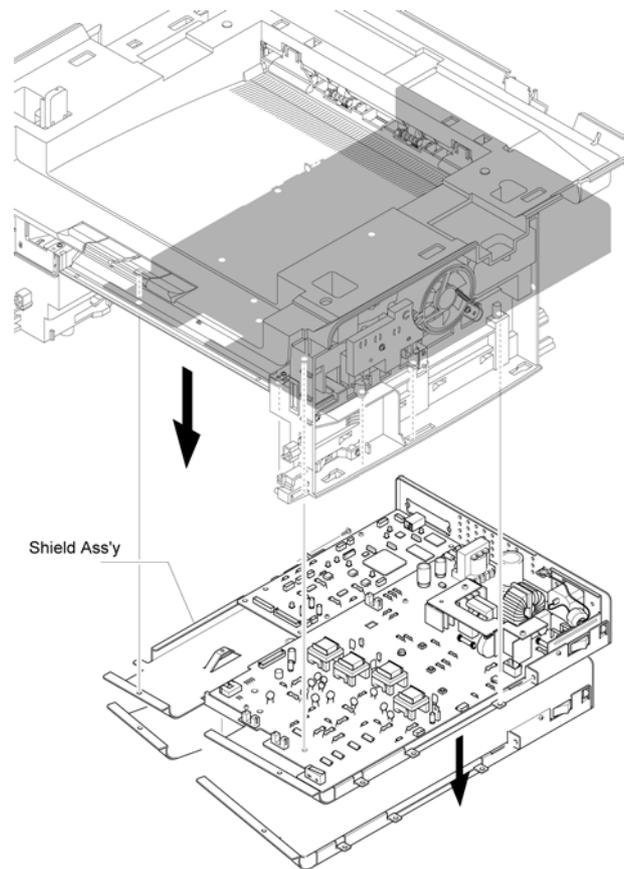

Figure 2
3. Tilt the Engine Shield Assembly to the left and remove the Engine Shield Assembly, Figure 2.